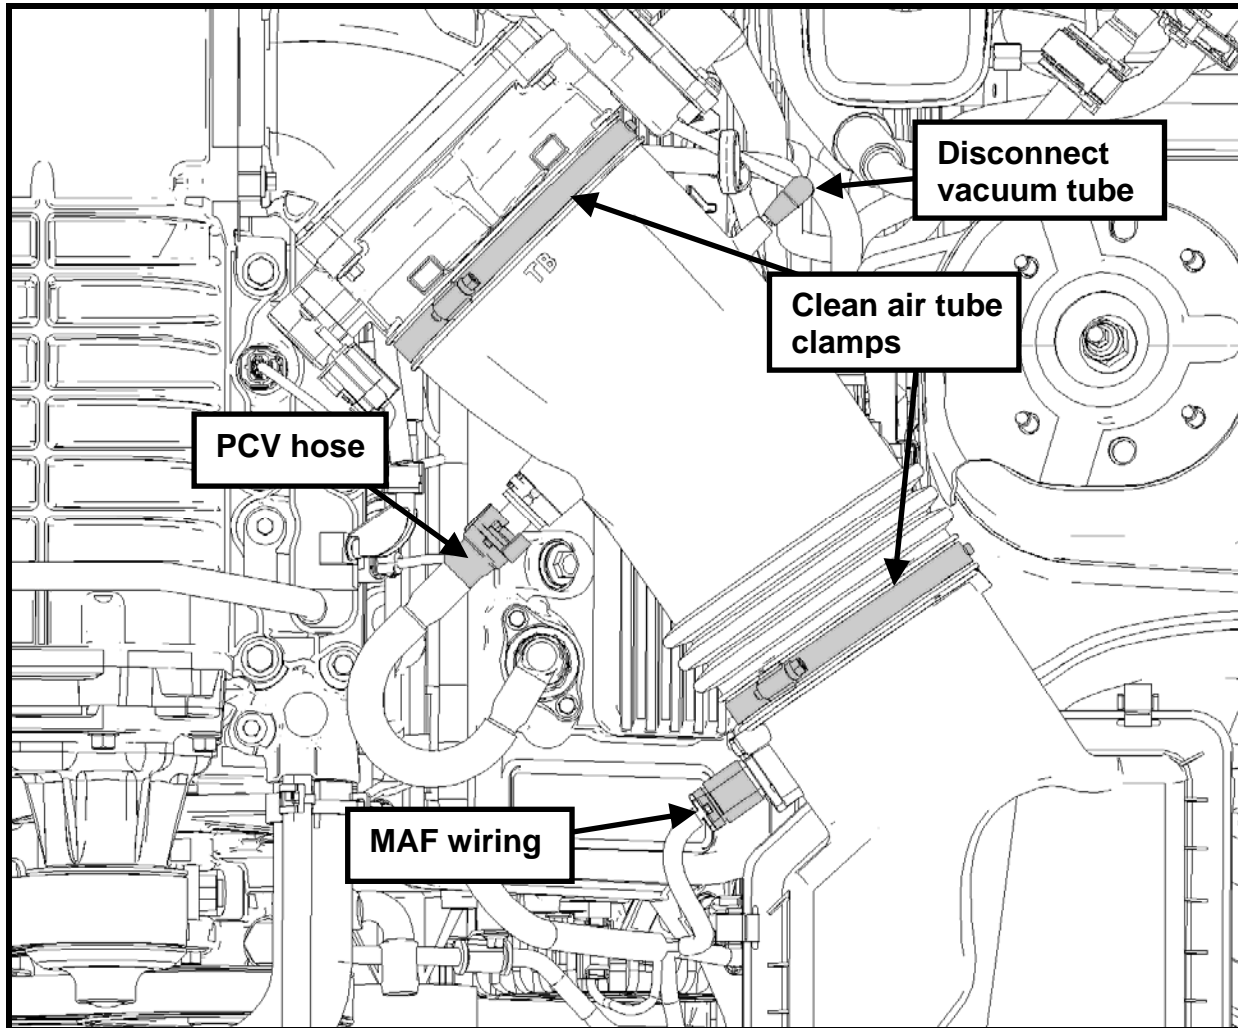

Fig. 4
STEP 6: Disconnect the electrical connector from the MAF sensor. Disconnect the vacuum harness and PCV hose from the clean air tube. Remove the clean air tube from the airbox and throttle body (See Fig. 4).